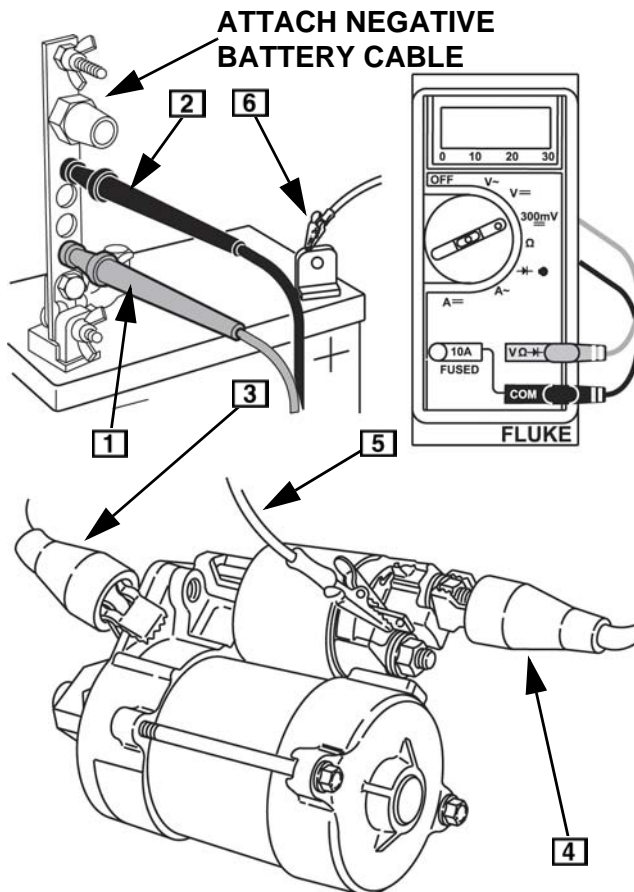

Fig. 11
The DC Shunt must be installed on the negative (-) terminal of the battery, Fig. 11.
5. Attach one end of jumper wire **5** to solenoid tab terminal, Fig. 11.
6. Activate starter by contacting positive battery terminal with other end of jumper wire **6**, Fig. 11.